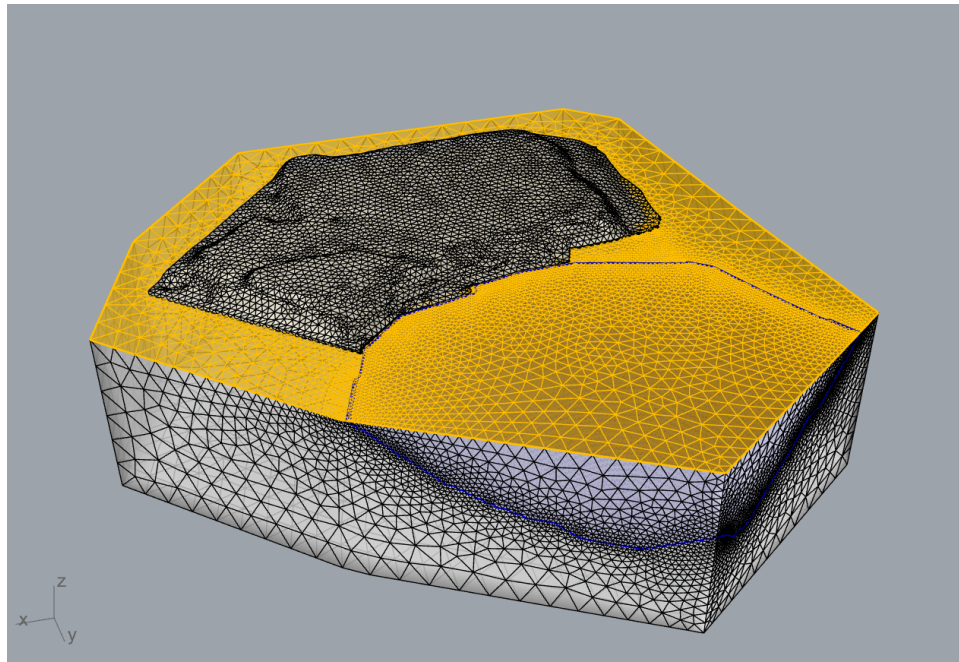

Figure 84: Intersected box, pit, pit dump, and topo meshes.
23. Similarly, trim (or split and delete) the upper section of the box mesh by the topo mesh (see Figure 84 – it shows already remeshed meshes).
- Then use **GSurf** (): *Mode = Tri*, *MinEdgeLength = 10*, *MaxEdgeLength = 100*, and *RidgeAngle = 20* to remesh all four meshes. The resulting meshes should look like that in Figure 84.
At this point, a volume mesh could be created from the surface meshes shown Figure 84. However, the model does not yet include any faults. The next section provides information about extending, intersecting, and trimming faults before including them into the model.